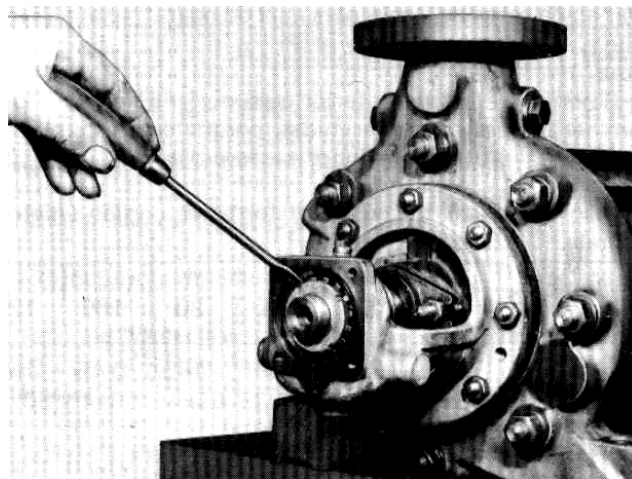

Fig. 49 - Bending back the lock washer
2. Remove bearing cover (360)
3. Bend back tab washer between ring nut of clamping sleeve and cylindrical roller bearing (322) (see Fig. 49).